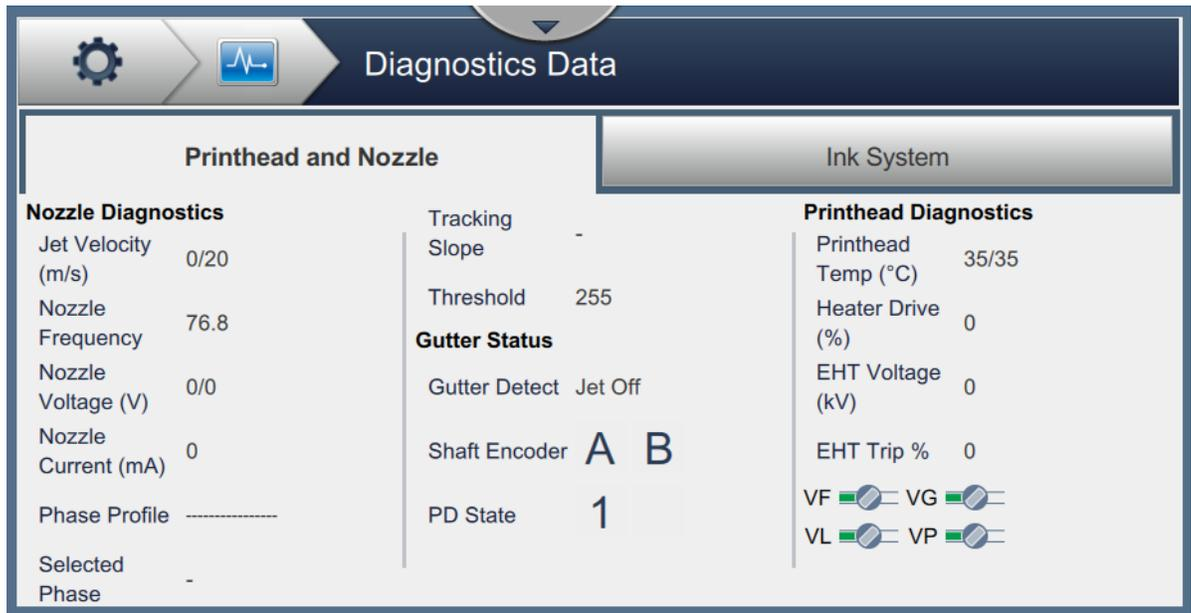

Figure 4-22: Diagnostics Data Screen
52. Navigate to *Tools > Diagnostics > Diagnostics Data*. The Diagnostics Data screen opens as shown in Figure 4-22.